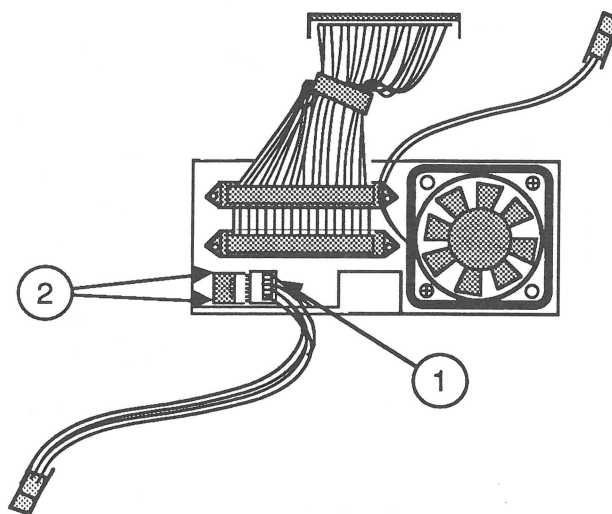

FIGURE 12
3. Disconnect the SCSI select switch cable (Figure 12, #1) from the SCSI select switch.
4. Using your fingers, squeeze down on all four plastic arms on the back of the switch (Figure 12, #2).
2. Connect the SCSI select switch cable (Figure 12, #1) to the SCSI select switch.